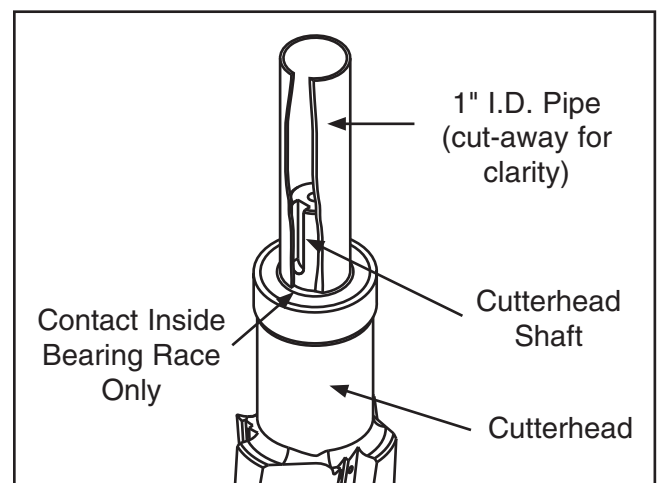

Figure 12. Close-up of bearing installation.
2. Install a new bearing on the cutterhead by very gently tapping it on, using a mallet and a 4" length of 1" inside diameter (I.D.) pipe, as shown in **Figure 12**.
Important: The pipe should contact the inside race of the bearing only, as shown in **Figure 12**. Force on any other portion of the bearing WILL ruin the bearing!